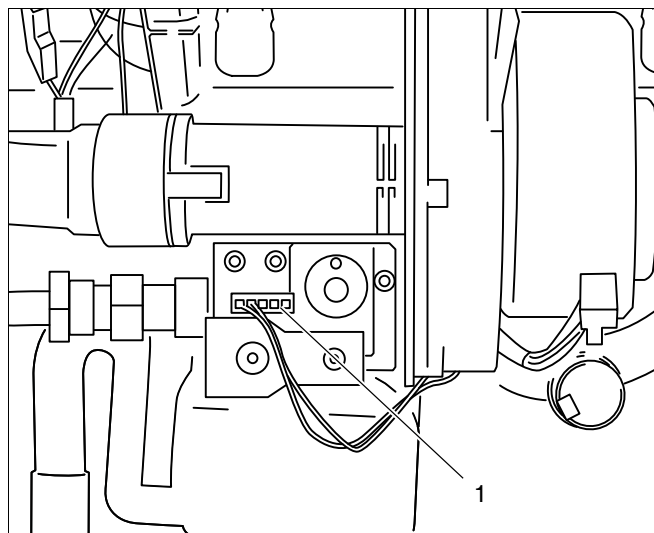

fig. 74 Replacing the gas control valve (e.g. HONEYWELL gas control valve)
- Remove the cable plug from the gas control valve (see fig. 74, pos. 1).